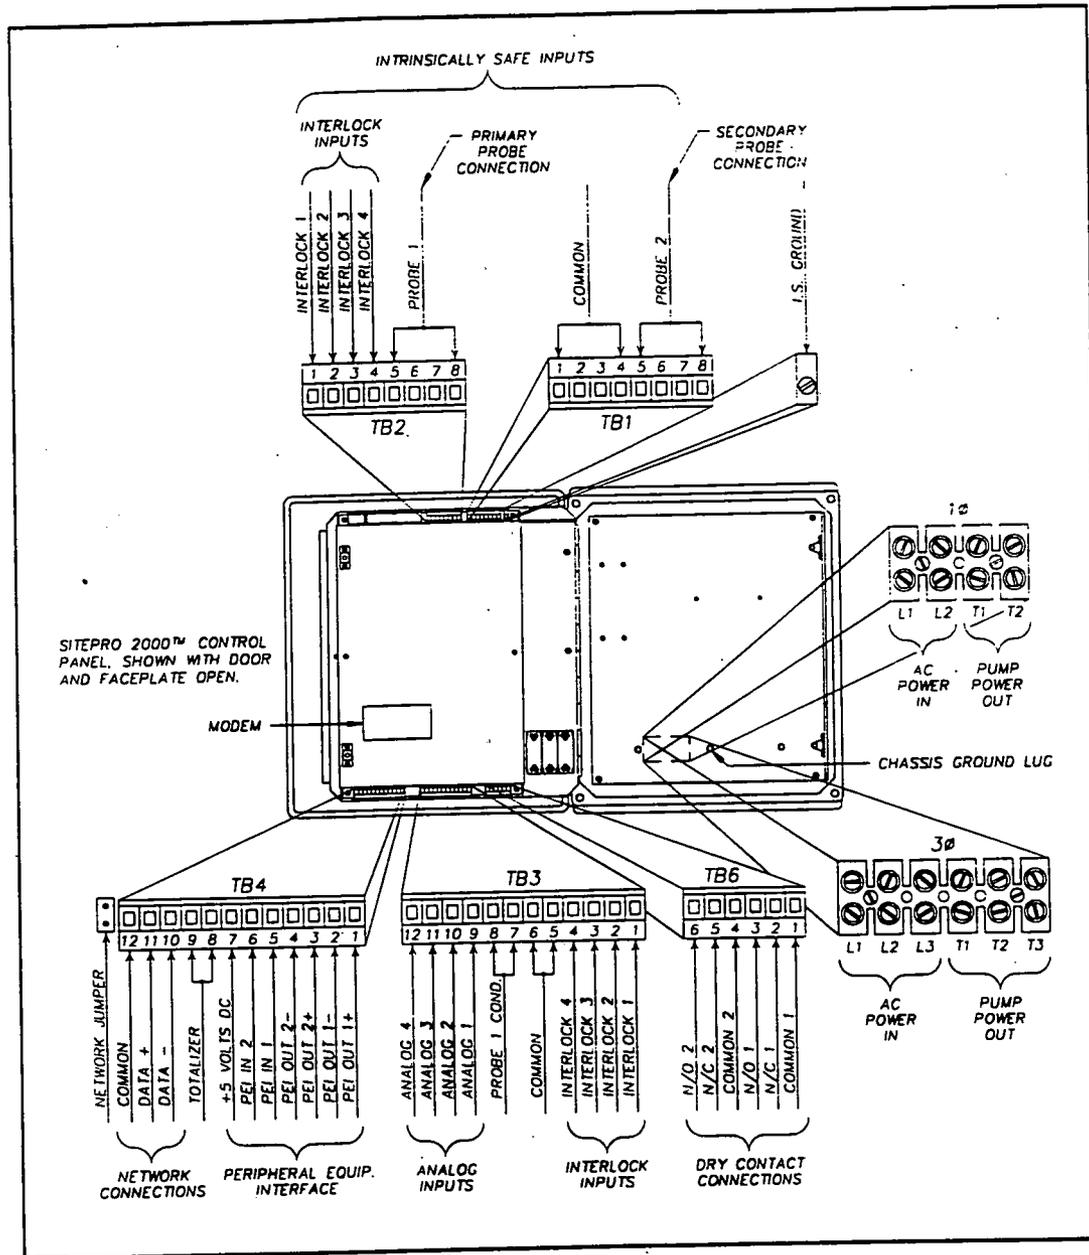
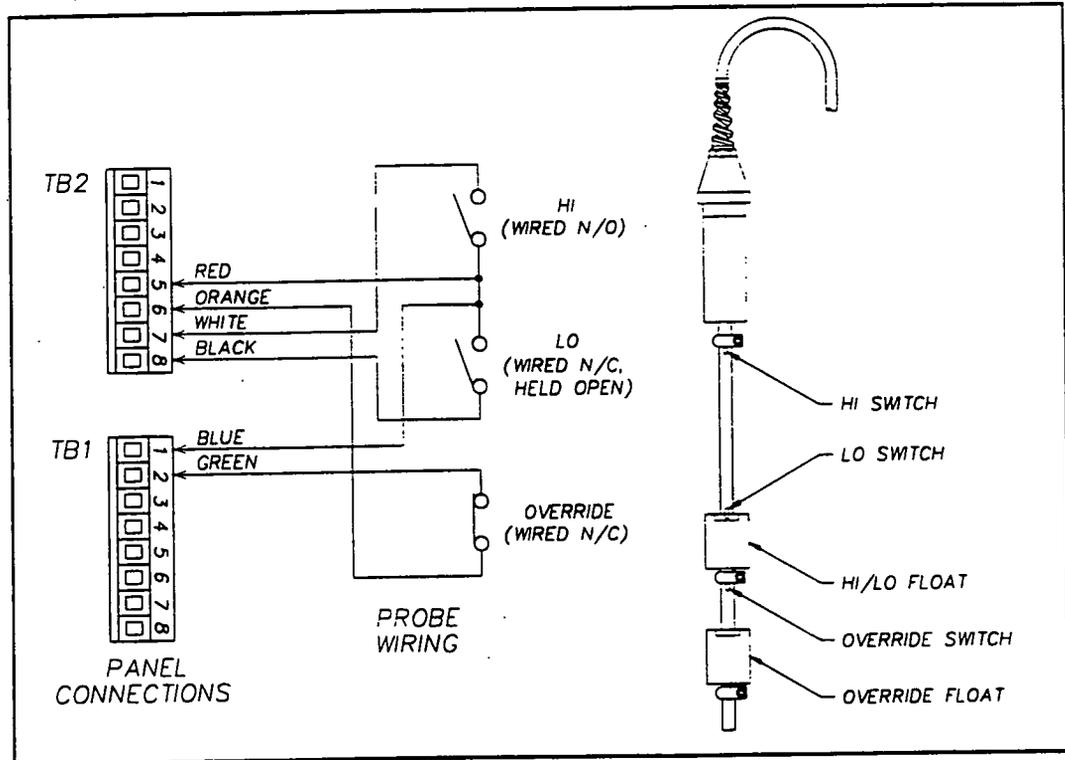

FIGURE 2-2. SITEPRO™ 2000 Control Panel showing terminal blocks for pump and power connections. See also chassis ground lug next to pump power terminals.
FIGURE 2-3. Wiring a standard ORS Water Table Depression Pump probe to the SITEPRO™ 2000 Control Panel.
Refer to Figure 2-2 (p. 2-5) for location of the PUMP POWER terminal blocks and ground lug on the SITEPRO chassis.
4. Attach the probe cable leads to terminal strips TB1 and TB2 inside the SITEPRO control panel. Refer to Figure 2-2 (p. 2-5) for terminal strip locations. Refer to Figure 2-3 (above) for wiring connections.